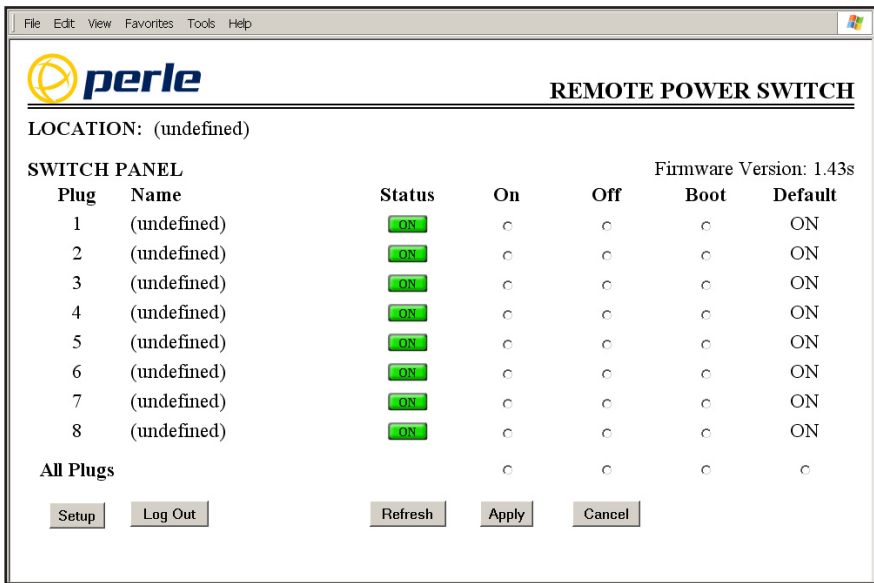

Figure 6.1: Plug Status Menu - Web Browser Interface (Model RPS830 Shown)
When you log on to the RPS command mode, using the Web Browser Interface, the first screen that is displayed after login is the Plug Status Screen (or "Switch Panel".) The Plug Status Screen (Figure 6.1) lists the current On/Off status of the RPS's Switched Outlets and provides a series of "radio buttons" which are used to control switching and rebooting of the outlets.
2. When the Plug Status Screen (Figure 6.1) appears, note that the screen includes a status field and switching and reboot controls for each of the RPS's Switched AC Outlets.